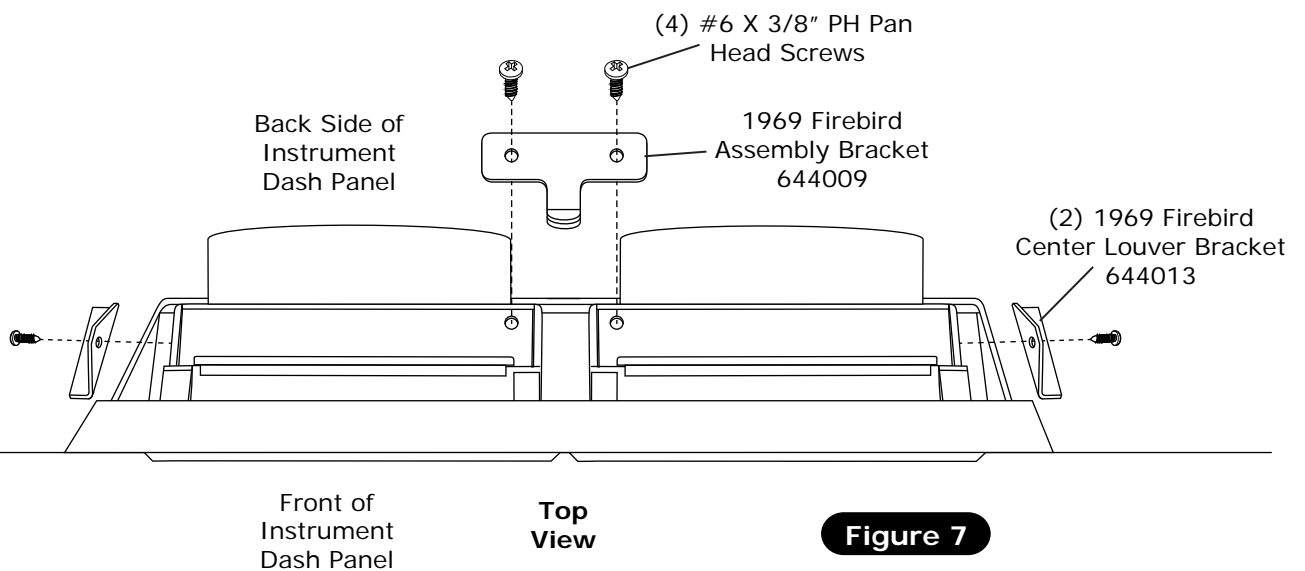

Figure 7
1. Install center louver assembly in instrument dash panel as shown in Figure 7, below.